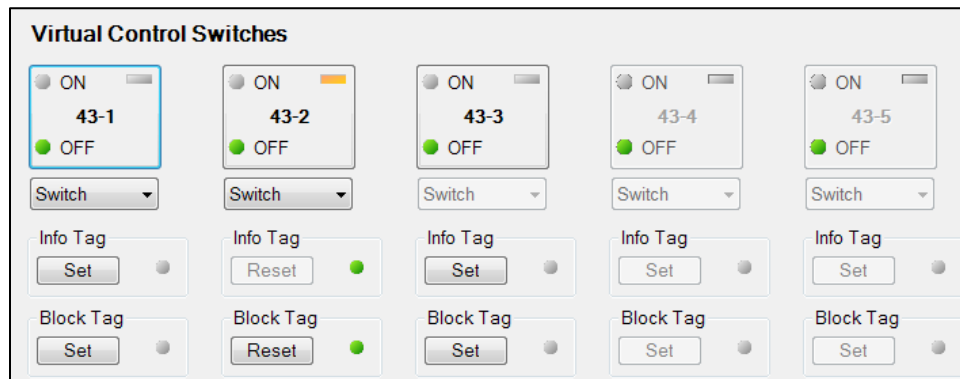

Figure 73-2. BESTCOMSPiPlus Virtual Switches Control Screen
- Step 4: Use the Metering Explorer of BESTCOMSPiPlus to open the Control, Virtual Switches tree branch (Figure 73-2). Using select-before-operate, perform the following steps to control a virtual switch.
- Step 3: Use the Metering Explorer of BESTCOMSP*lus* to open the Control, Virtual Switches tree branch (Figure 73-2). Using select-before-operate, perform the following steps to control a virtual switch.